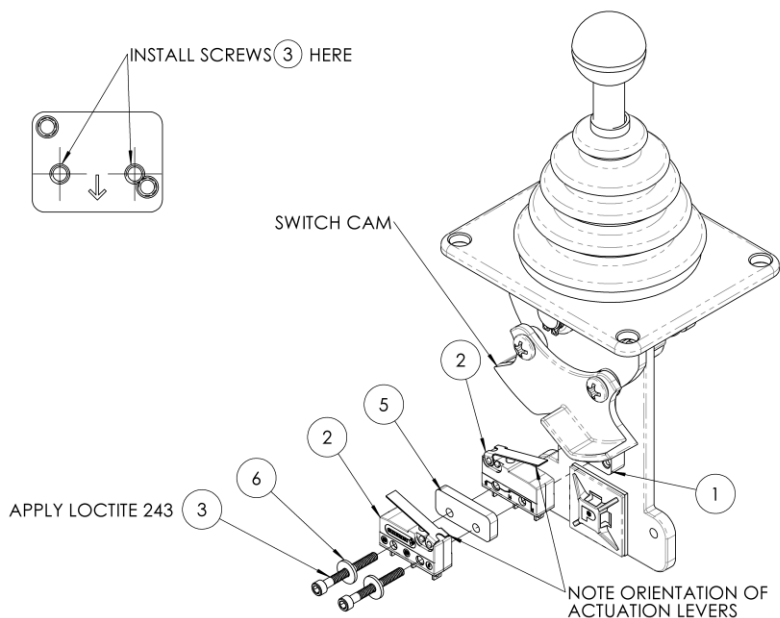
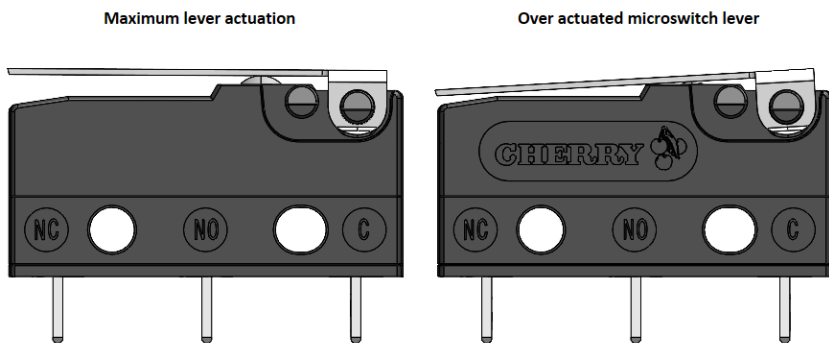

Figure 24: Placement of microswitches in the joystick assembly
Figure 25: Maximum and over actuated microswitch lever.
8. Refer to Figure 24 for the next several steps. Note the orientation of the lower and upper microswitches ② shown in Figure 24.
9. Arrange the microswitches ②, spacer ⑤, washers ⑥, and screws ③ as shown Figure 24 to make a micro switch subassembly.
Ensure the orientation of the actuation levers on the microswitches are as shown in Figure 24.
10. Place Loctite 243(blue) on the exposed threads of the screws ③.
11. Keeping the microswitch sub-assembly together, place it on top of the mounting bracket ①, keeping everything orientated as shown in Figure 24.
12. Tighten the screws ③ to the specification given in Table 16. Do not overtighten the screws or damage to the microswitch will occur.
- a. The actuation levers of microswitches ② are clear of any obstructions through its range of motion. If the switch cam(see Figure 24) grabs or gets stuck on one of the microswitch actuation levers check the switches are orientated correctly.
- b. The microswitch ② lever is depressed enough to actuate the switch contacts when the joystick is pushed to its end of travel. This can be done by checking for continuity across the common and signal wire of the switch being actuated. Refer to section 3.2, Table 4 for clarification on which wires to check.
- c. The microswitch is not over-actuated. When the microswitch lever is horizontal, this is the maximum allowable lever actuation. Beyond this, the lever is considered over actuated, and operation can damage the internal switch components. Refer to Figure 25 for clarification on the over actuated position.
- d. The microswitch ② lever is raised enough to open the switch contacts when the joystick is in its neutral position. There should be an open circuit between the common and both of the signal wires when the joystick is at neutral.